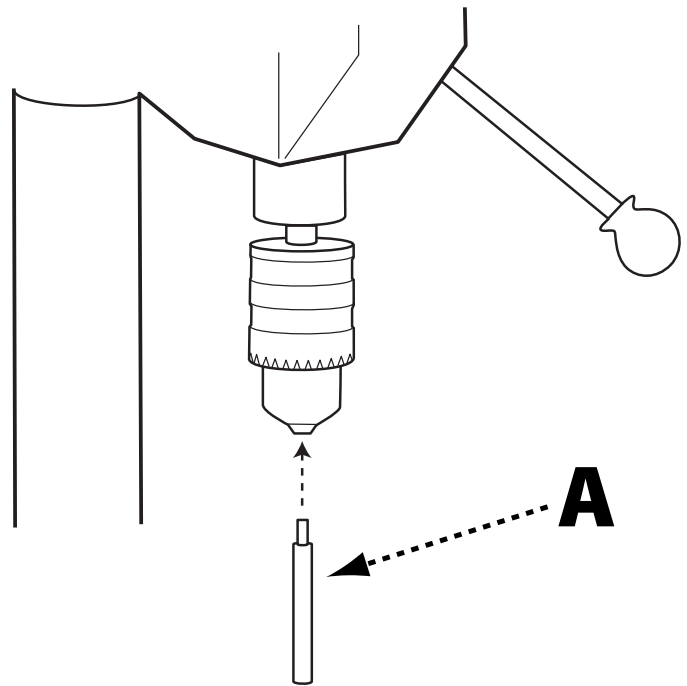

FIGURE 1
Insert the small end of the quill alignment pin (A) into the drill chuck and tighten the chuck as shown in Figure 1.